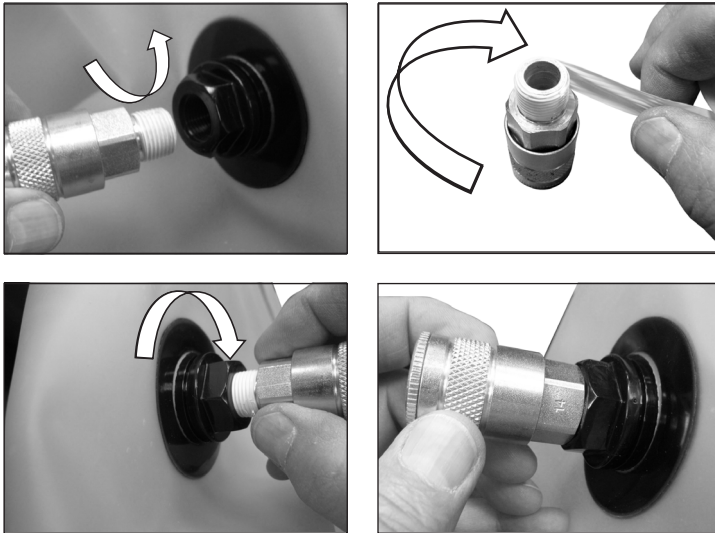

Figure 5.
5. Remove the quick connect fitting by turning counterclockwise with a 7/8" wrench while holding the liner outlet fitting with a 1" wrench. Apply 2 wraps of teflon tape around the quick connect fitting threads in a clockwise direction. Install quick connect fitting in new liner by turning clockwise with a 7/8" wrench while holding the liner outlet fitting with a 1" wrench. Quick connect fitting should be tightened snug against the face of the liner outlet fitting. (**See Figure 5.**)